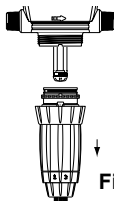

Fig. 17
- Pull downwards to remove the injection assembly (Fig. 17).